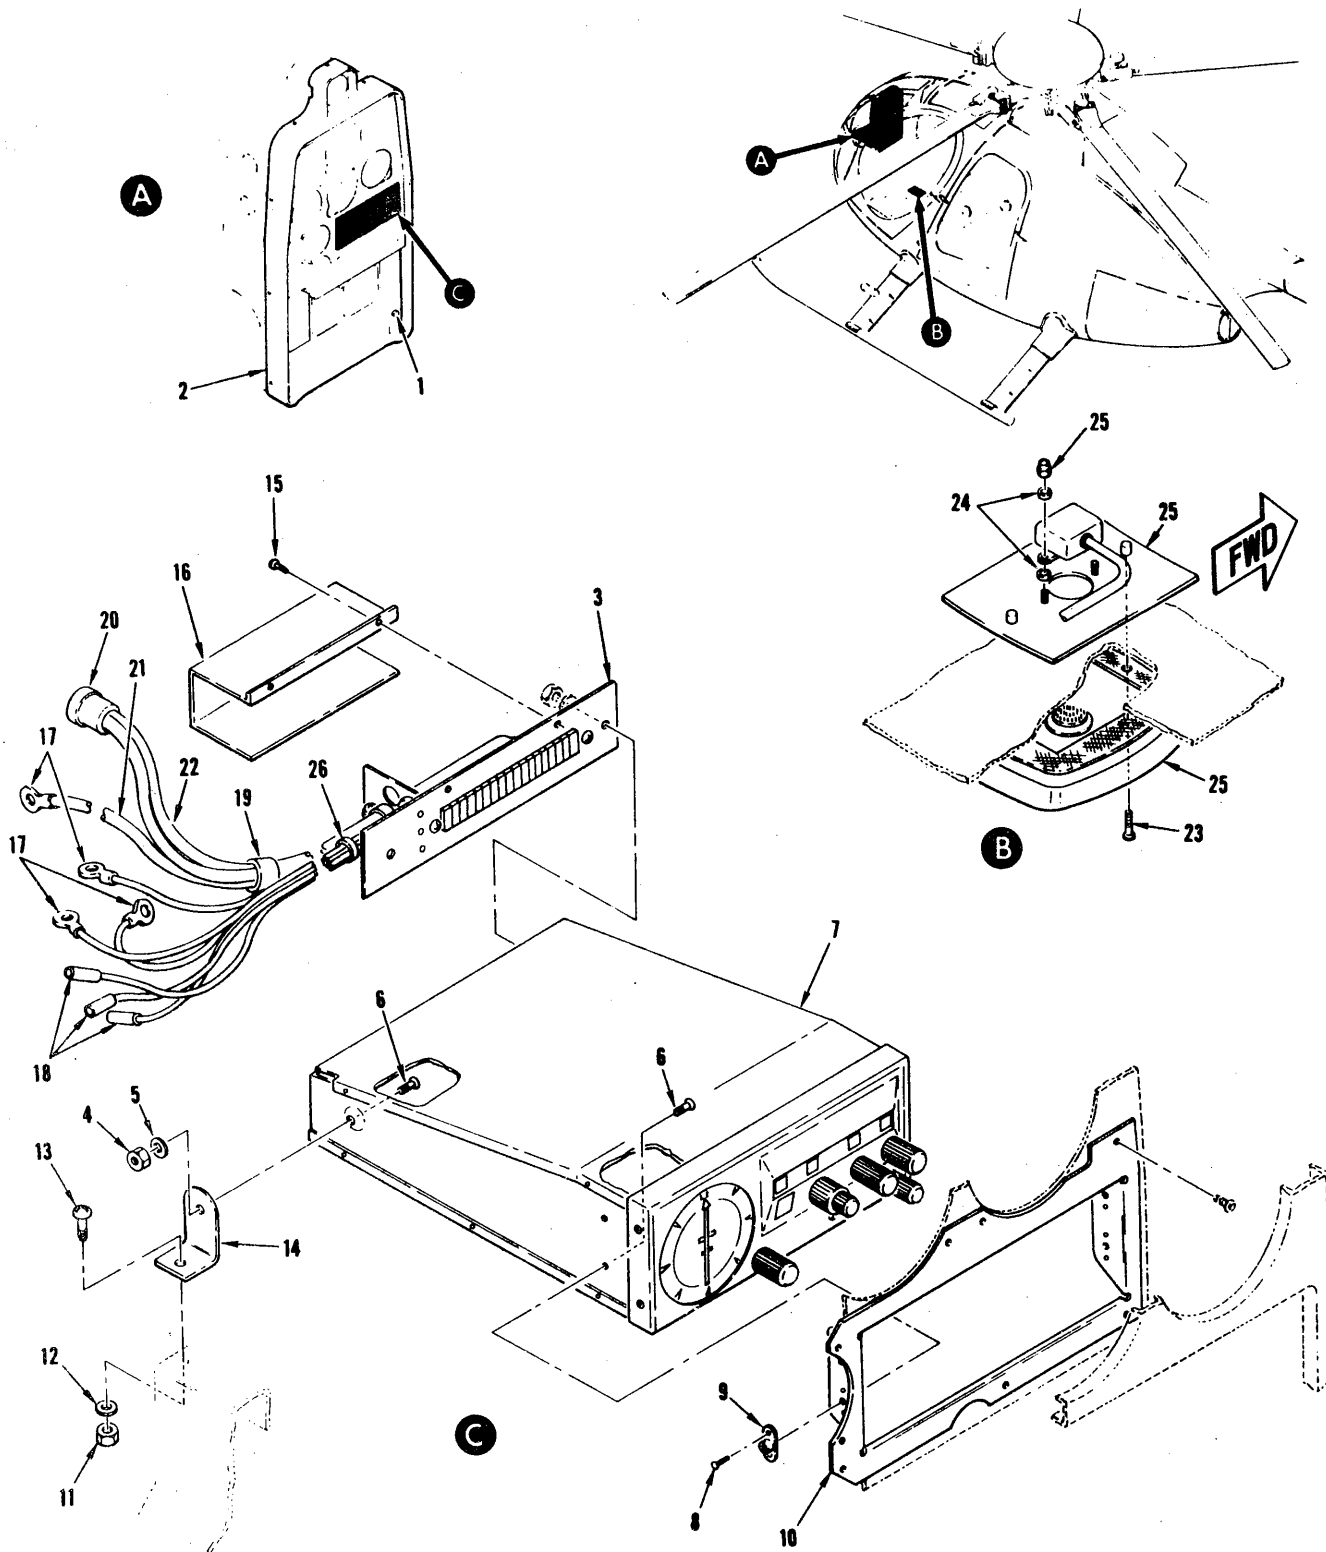
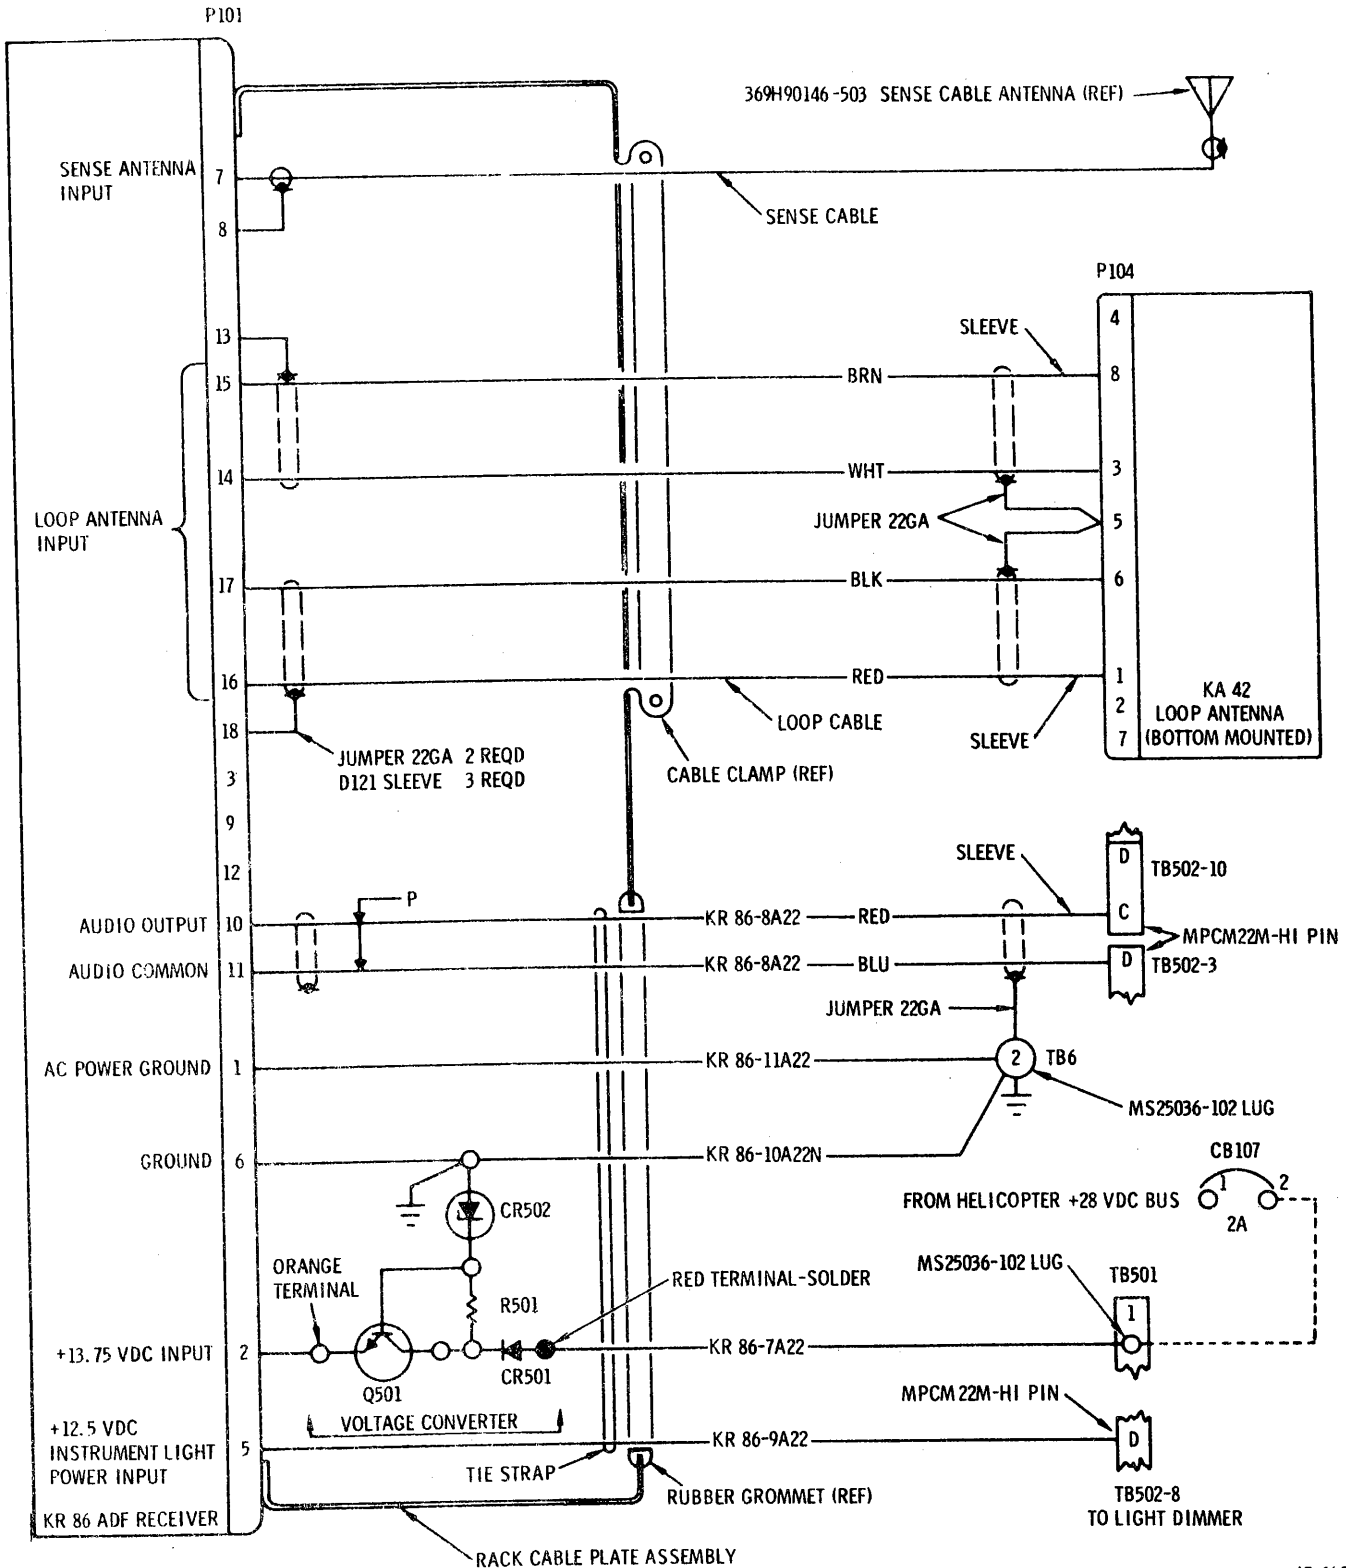

Figure 1-1. KR 86 automatic direction finder
Figure 2-1. KR 86 automatic direction finder (ADF) and interphone communication system (ICS) electrical interface
2-1. GENERAL INFORMATION. The KR 86 automatic direction finder (ADF) homes on selected ground radio stations to provide accurate bearing information for helicopter navigation. It consists of a KR 86 receiver with integral vhf omnirange (VOR) indicator, KA 42 loop antenna, wire harness assembly which includes the loop antenna cable and sense antenna cable, and attaching hardware. The sense antenna cable connects to the 369H90146-503 (ASP-3-BL) whip antenna which is already installed in the helicopter. The KR 86 receiver consists of the enclosed receiver unit and a rack cable plate assembly which mounts on the rear of the unit. The ADF system is powered by +28 vdc from the helicopter main bus, supplied through the 2-ampere ADF circuit breaker (CB107) (1, fig. 1-1) on the instrument panel. This manual provides maintenance instructions for the ADF system. For maintenance information pertaining to the KR 86 receiver, refer to the manufacturer's publication (table 2-12, HMI - Vol 1).
NOTE: An integrated interphone communication system (ICS) must be installed in the helicopter for use with the ADF installation. The ICS audio equipment (headset, switch and jack assembly and control unit) are required for reception of ADF voice and code signals. The electrical interface of the ADF and ICS is shown in figure 2-1, and the ICS electrical circuitry is described in the ICS Opt Eqpt Manual (table 21-1, HMI - Vol 1).
2-2. DESCRIPTION OF KR 86 RECEIVER. The KR 86 receiver (7, fig. 1-1) is a digitally-tuned solid state receiver which operates within the 200 kHz-to-1750 kHz frequency range. The receiver is flush mounted in the helicopter instrument panel. Three rotary switches on the receiver front panel are used to select the operating frequency (in 1 kHz increments) and the selected frequency is shown on a four-digit display. The TEST/ADF two-position rotary switch is used to select the test of ADF mode of operation. The OFF/VOL rotary switch is used to turn the ADF on, and to adjust the ADF audio to a comfortable level. The receiver supplies signals to the ADF indicator, flush mounted on the front panel of the receiver, to position a pointer to indicate the direction of the station
from which the signal is received. The HDG/TEST control is used to manually position the heading card in the face of the indicator. The rack cable plate assembly (3, fig. 1-1) contains a voltage converter which converts the +28 vdc supplied to the receiver to +13.75 vdc at 0.5 ampere, maximum. For additional description and theory of operation, refer to the manufacturer's publication (table 2-12, HMI - Vol 1).
2-3. DESCRIPTION OF WIRE HARNESS ASSEMBLY. The 369H90056-21 wire harness assembly consists of a loop antenna cable, sense antenna cable, five interconnecting wires, two connectors, miscellaneous parts, and the rack cable plate assembly. The wiring diagram for the wire harness assembly is shown in figure 2-1. The receiver ends of the cables and wires are connected to connector P101 which is part of rack cable plate assembly (3, fig. 1-1). The wire harness assembly interconnects the ADF receiver loop antenna, sense antenna, light dimming circuit, and ICS audio circuits.
NOTE: Wire connections at connector P104 must be as shown in figure 2-1 for proper phasing of loop antenna input signals.
2-4. DESCRIPTION OF KA 42 ADF LOOP ANTENNA. The KA 42 ADF loop antenna (25, fig. 1-1) consists of two windings wound at right angles. The windings are symmetrical with respect to ground to prevent unwanted pickup. The magnet field of the radio signal induces a voltage in the loop antenna. The relative direction of the signal source determines the amplitude of the voltage induced in each antenna winding. These voltages are used in the ADF indicator to position the heading pointer to indicate the angle at which the radio signal is entering the loop antenna. The loop antenna is mounted on the underside of the fuselage below the pilot's compartment. The ADF loop antenna is connected to the ADF receiver via the 200-0446-00 loop antenna cable.
2-7. TROUBLESHOOTING. If the ADF system does not operate properly during operational check or normal use, refer to table 2-1 for aid in locating the probable trouble and for corrective action. Refer to the ADF wiring diagram (fig. 2-1) for aid in troubleshooting. If troubleshooting indicates that the trouble is in the ADF indicator or the ADF receiver, refer to the manufacturer's publication (table 2-2, HMI - Vol 1) for unit troubleshooting and corrective action.
- c. Remove hardware that attaches hood (2, fig. 1-1) and remove hood.
- d. Remove rack cable plate assembly (3) being careful to avoid damaging connector.
- e. Remove nuts (4), washers (5), and screws (6), then remove ADF receiver (7).
- f. Do not remove plate (10) unless damaged.
- g. Do not remove angles (14) unless damaged.
- c. Remove screws (23, fig. 1-1) and remove loop antenna (25). Retain spacer washers and rubber gasket for reconnection of cable terminal box.
d. Install replacement loop antenna in reverse order of removal. Check that the arrow on the antenna is pointing to the forward end of the helicopter, and that the antenna cable wiring is connected for proper phasing. Refer to the wiring diagram (fig. 2-1) and the manufacturer's publication (table 2-2, HMI - Vol 1).
2-15. WIRING DIAGRAM. See figure 2-1 for the ADF system interconnection wiring diagram.